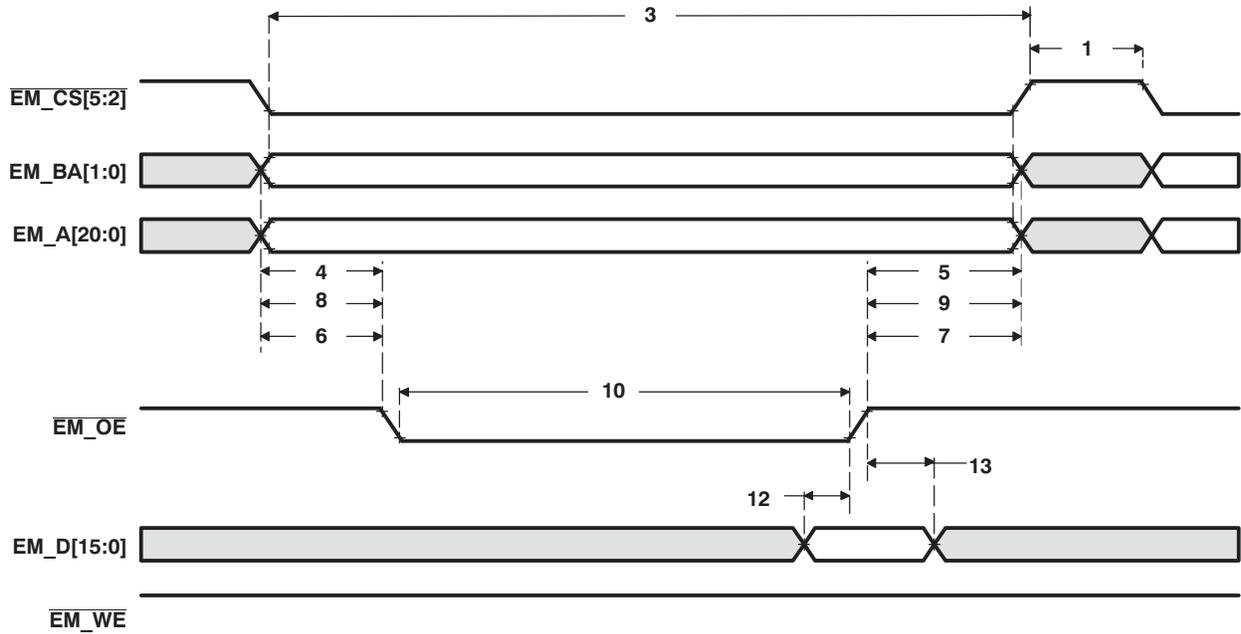
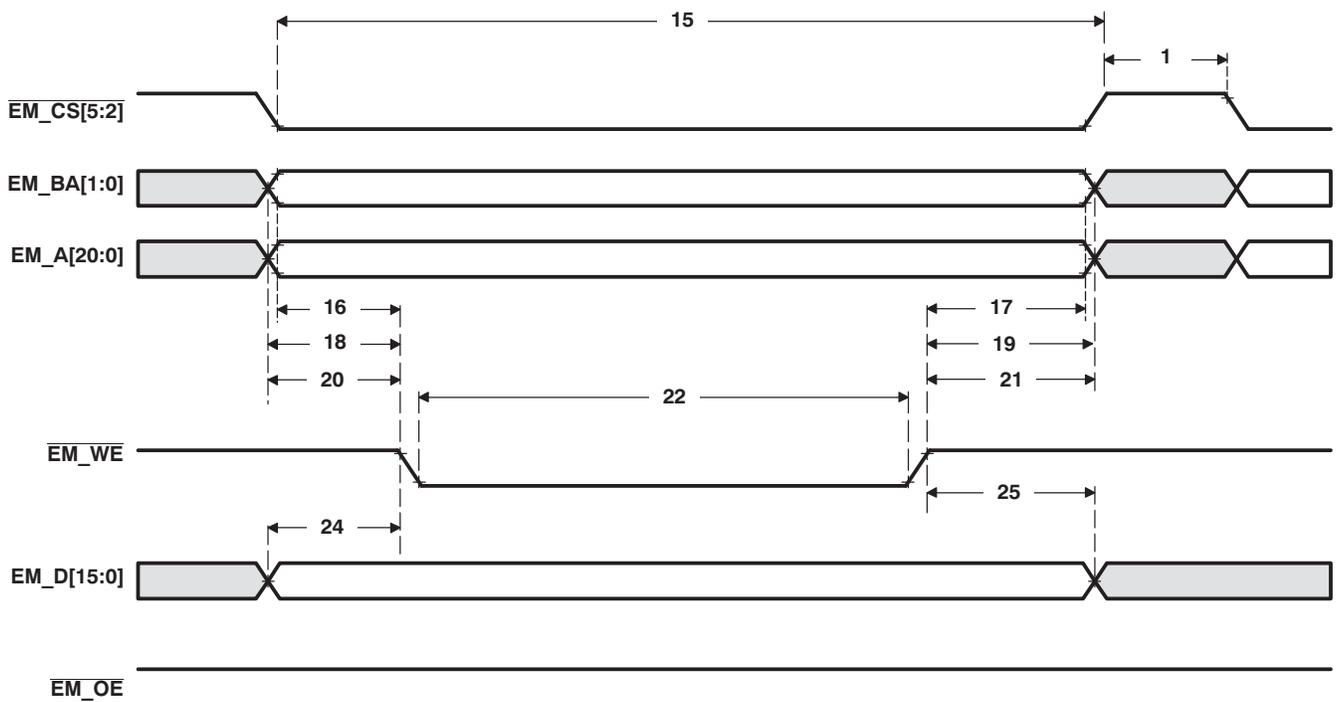
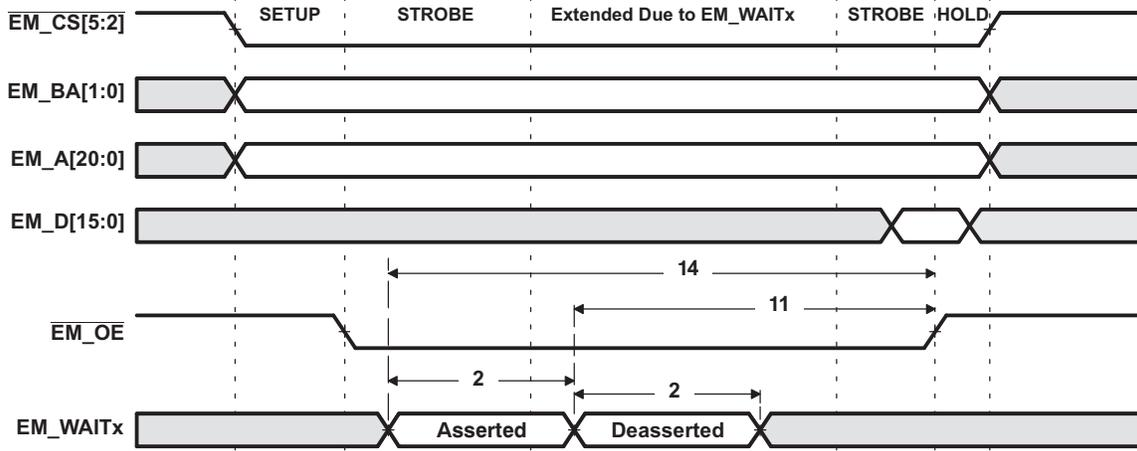
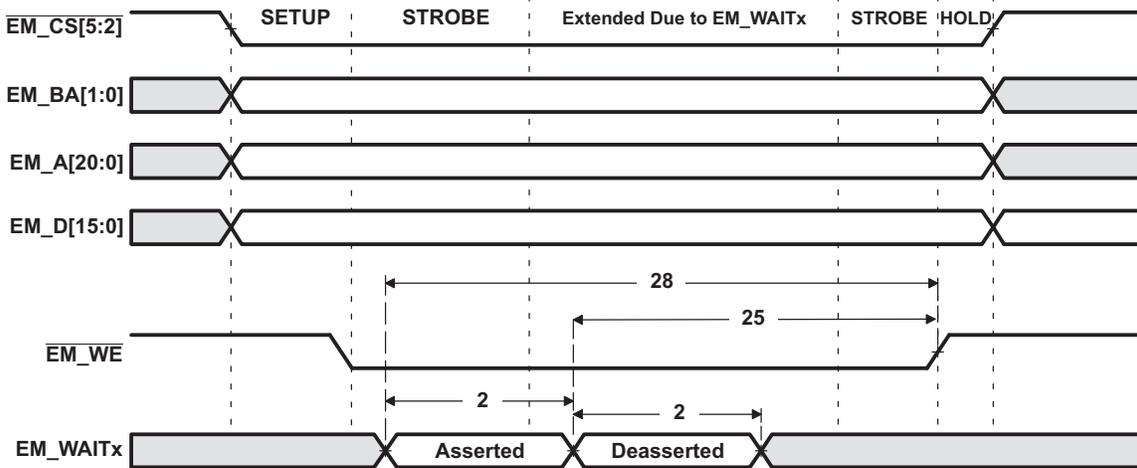

Figure 5-14. Asynchronous Memory Read Timing for EMIF
Figure 5-15. Asynchronous Memory Write Timing for EMIF
Figure 5-16. EM_WAITx Read Timing Requirements
Figure 5-17. EM_WAITx Write Timing Requirements
Table 5-12. Switching Characteristics Over Recommended Operating Conditions for EMIF Asynchronous Memory⁽¹⁾⁽²⁾ (see Figure 5-15 and Figure 5-17)⁽³⁾
Table 5-12. Switching Characteristics Over Recommended Operating Conditions for EMIF Asynchronous Memory (see Figure 5-15 and Figure 5-17) (continued)
Table 5-13. Timing Requirements for EMIF Asynchronous Memory⁽¹⁾ (see Figure 5-14, Figure 5-16, and Figure 5-17)
- (1) E = SYSCLK period in ns, if EMIF is set for "full rate" **or** E = SYSCLK/2 period in ns, if EMIF is set for "half rate" as defined by bit 14 of the EMIF Status register (0x1001h). For example, when EMIF is set to full rate and SYSCLK is selected and set to 100 MHz, E = 10 ns.
- (2) Setup before end of STROBE phase (if no extended wait states are inserted) by which EM_WAITx must be asserted to add extended wait states. Figure 5-16 and Figure 5-17 describe EMIF transactions that include extended wait states inserted during the STROBE phase. However, cycles inserted as part of this extended wait period should not be counted; the 4E requirement is to the start of where the HOLD phase would begin if there were no extended wait cycles.
Table 5-14. Switching Characteristics Over Recommended Operating Conditions for EMIF Asynchronous Memory⁽¹⁾⁽²⁾⁽³⁾ (see Figure 5-14, Figure 5-16, and Figure 5-17)
Table 5-14. Switching Characteristics Over Recommended Operating Conditions for EMIF Asynchronous Memory (see Figure 5-14, Figure 5-16, and Figure 5-17) (continued)